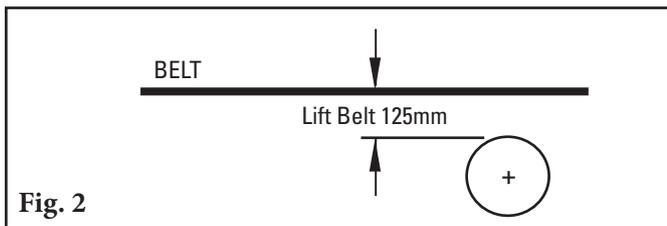

Fig. 2
2. **Lift the belt** approximately 75mm where the trainer will be installed. Remove existing idler (if applicable) (Fig. 2). **NOTE:** If the conveyor has disc idlers, replace one idler with a standard idler before and after the location where the trainer will be installed.
2. **Lift the belt** approximately 125mm where the trainer will be installed. Remove existing idler (if applicable) (Fig. 2). **NOTE:** If the conveyor has disc idlers, replace one idler with a standard idler before and after the location where the trainer will be installed.